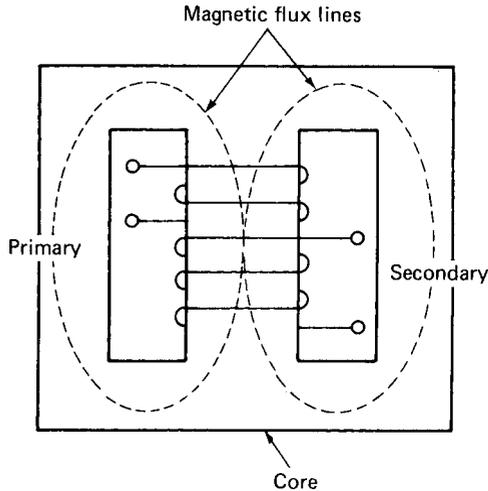

Figure 8-14 Shell-core transformer.
- 3. *Shell-core*: This is the most efficient type of transformer. Figure 8-14 shows the design characteristics. Note how the magnetic flux pattern containment improves the efficiency.